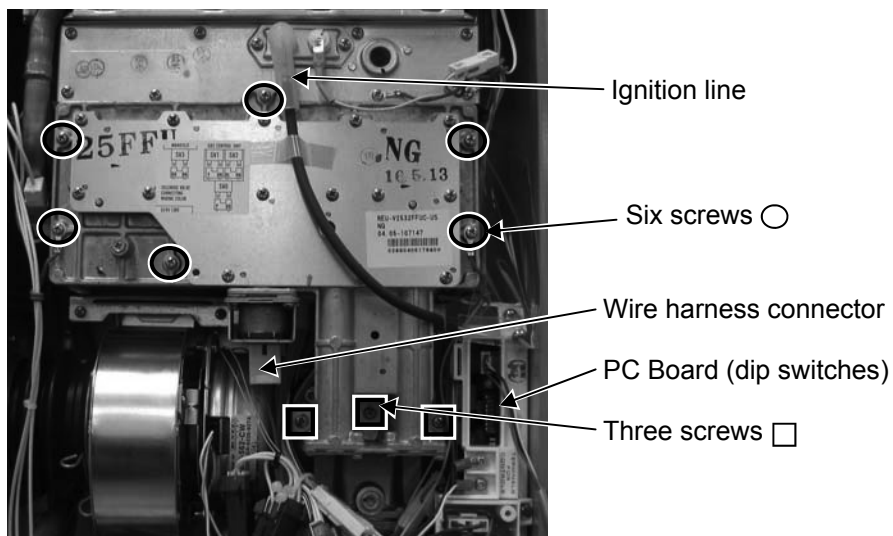

Figure 1
4. Pull out wire harness connector at the gas manifold assembly. See Figure 1.